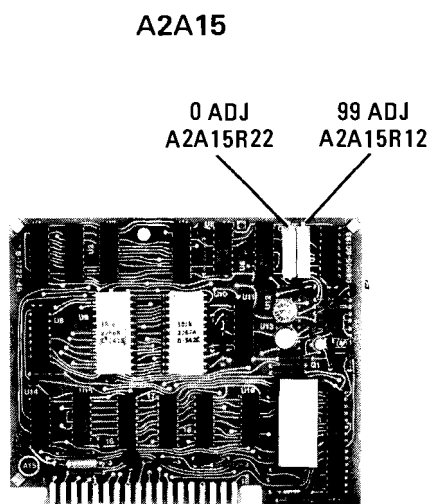

Figure A5-50. A2A15 Frequency Control I/O Vernier Adjustment Locations.
- e. Adjust "0" ADJ control A2A15R22 (see Figure A5-50) to place marker on left edge of CRT trace. The marker diamond must be pointing up and the FREQUENCY COUNTER readout must be unblanked.
- h. Adjust "99" ADJ control A2A15R12 (see Figure A5-50) to place marker on right edge of CRT trace. The marker diamond must be pointing up but the FREQUENCY COUNTER readout must be blanked.
- i. Program Frequency Marker (FC) to "98":